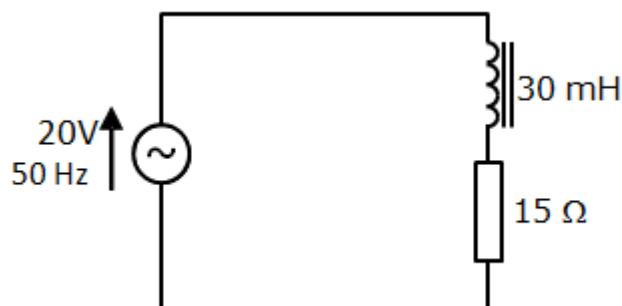

Fig. Q.2
2. A load consisting of a 30 mH inductor and a 15Ω resistor are placed in series across a 20V 50 Hz ac supply (Fig. Q.2). Calculate the current supplied to the load and the voltage across the resistor, expressing all your answers both in Cartesian and polar form.